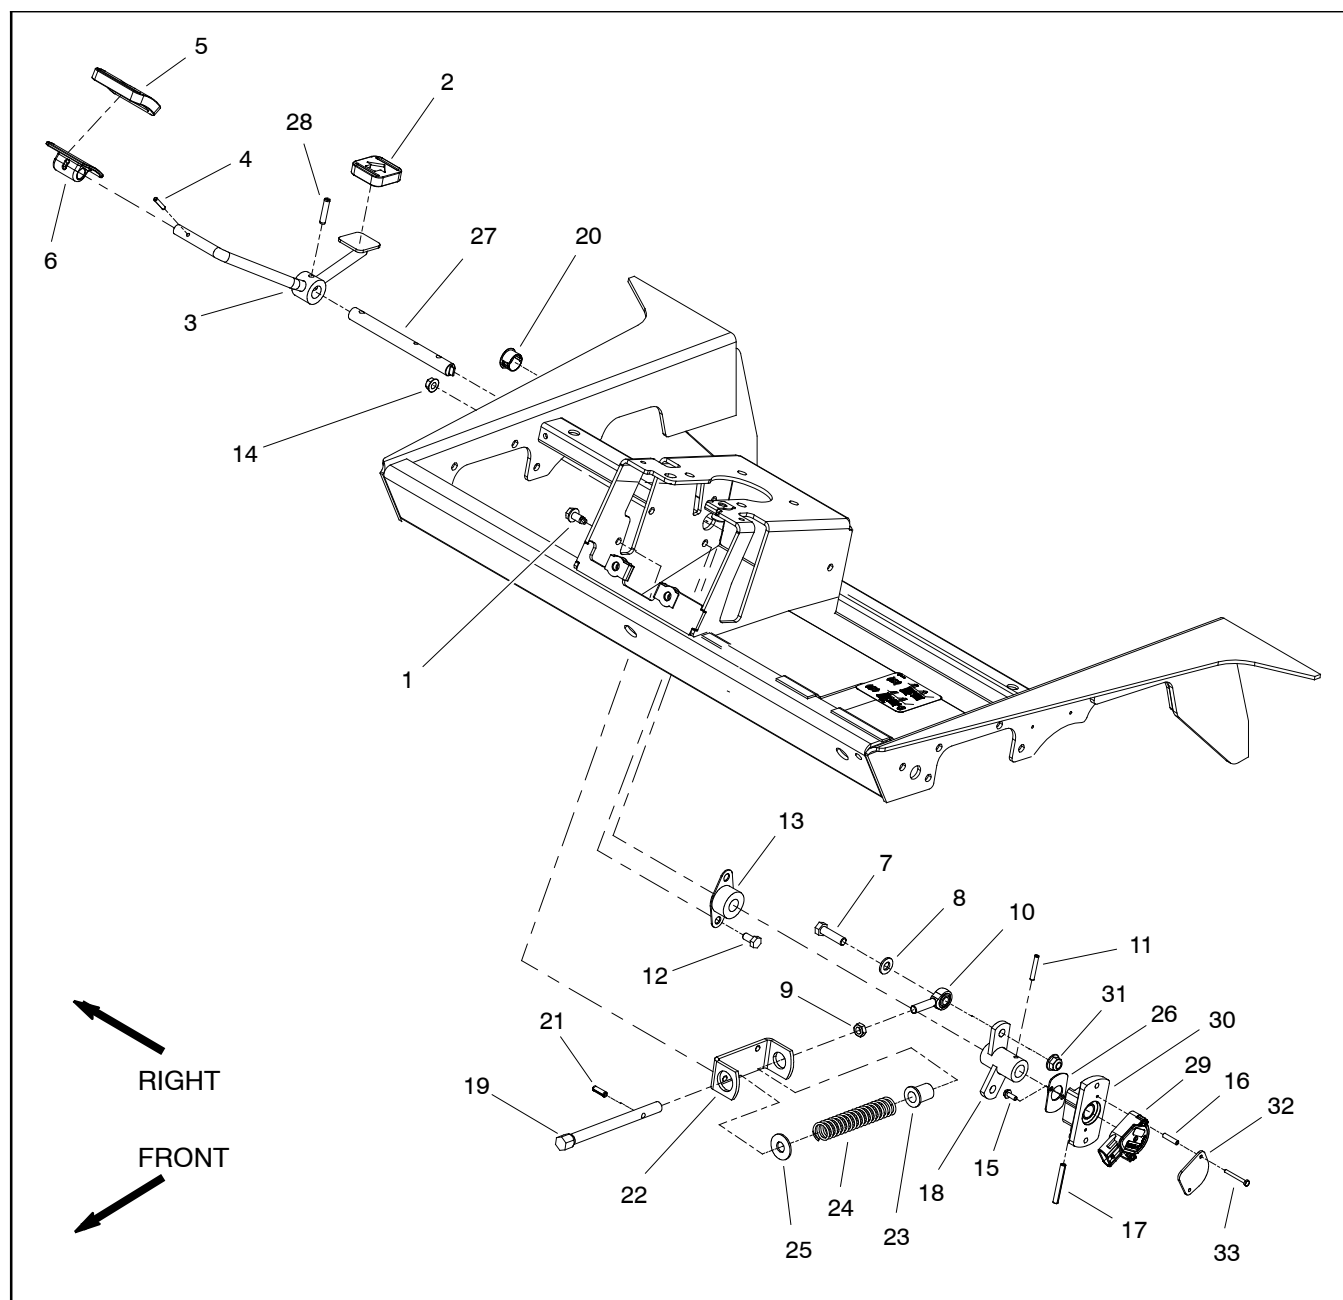

Figure 5
#### Disassembly (Fig. 5)
2. Disconnect machine wire harness connector from position sensor (item 29) on traction pedal.
3. Disassemble traction pedal as needed using Figures 5, 6 and 7 as guides. When removing roll pins (items 11, 17, 21 and 28 in Fig. 5), make sure to support shaft to prevent component damage.
#### Assembly (Fig. 5)
1. Assemble traction pedal using Figures 5, 6 and 7 as guides noting the following items:
- A. Apply grease to both the OD and ID of the spring retainer (item 23 in Fig. 5) before installation. Take care to not get grease on threads of spring shaft (item 19 in Fig. 5) or jam nut (item 9 in Fig. 5).
- B. If traction pivot shaft (item 27 in Fig. 5) was removed, apply grease to the shaft areas that will be inside the bearings after assembly.
- C. When installing roll pins (items 11, 17, 21 and 28 in Fig. 5), make sure to support shaft to prevent component damage. Use a press to install roll pins. Also, take care to not distort roll pins during assembly.
- D. Make sure that roll pin (item 17 in Fig. 5) is fully inside the butterfly groove of the hub (item 30 in Fig. 5). The roll pin should not contact the hub throughout the operating range.
- E. To install the traction pedal position sensor (item 29 in Fig. 5), align the slot on the end of the traction pivot shaft with the slot in the position sensor. Hold position sensor in position while installing standoff spacers (item 16 in Fig. 5), capture plate (item 32 in Fig. 5) and cap screws (item 33 in Fig. 5).
- F. Leave the jam nut (item 9 in Fig. 5) loose so that the position sensor can be calibrated.
3. Plug machine wire harness connector into traction pedal position sensor (item 29 in Fig. 5).
5. Make sure that jam nut (item 9 in Fig. 5) is tightened after position sensor adjustment.